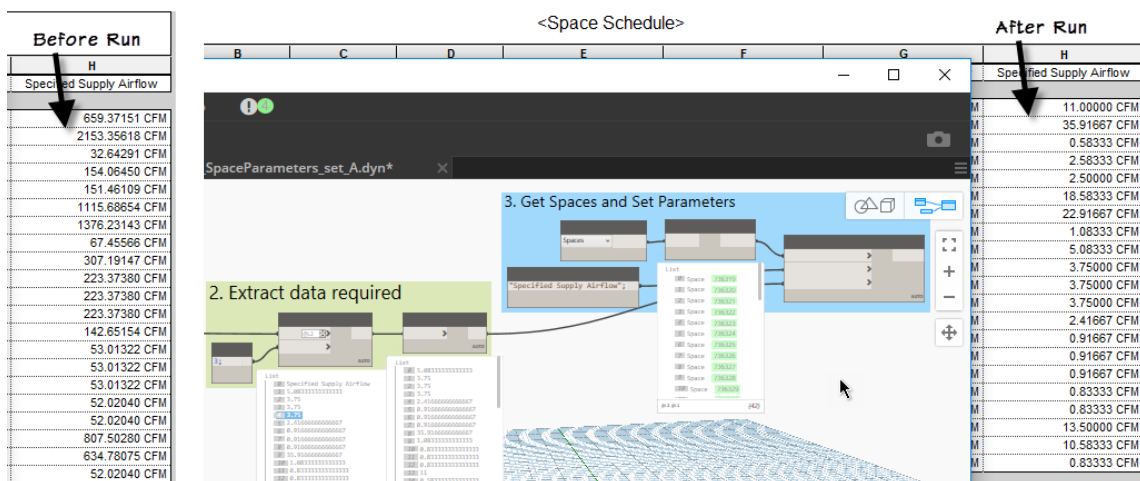

FIGURE 72
18. Run the graph (see Figure 72).